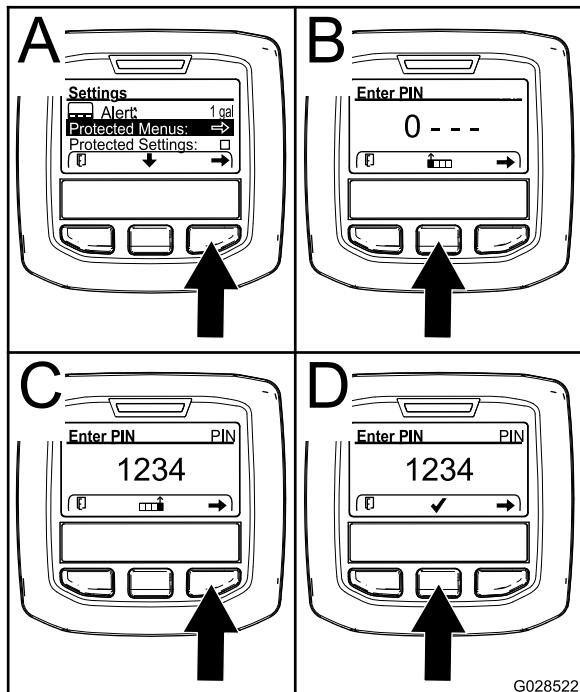

Figure 61
3. Press the right select button to select Protected Menu (A of Figure 61).
- Press the center selection button (B of Figure 61) to increase the numerical value (0 to 9)
- Press the right selection button (C of Figure 61) to move the cursor to the next numerical position to the right.
Note: The checkmark icon will appear above the center selection button (D of Figure 61).
6. Press the center selection button (D of Figure 61) to enter the password.